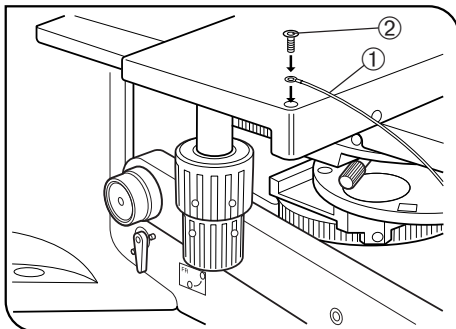

Fig. 10
### 3 Setting the Grounding (Fig. 10)
- Prepare a grounding wire ① and M4 screw ② and attach grounding as shown in Fig. 10.